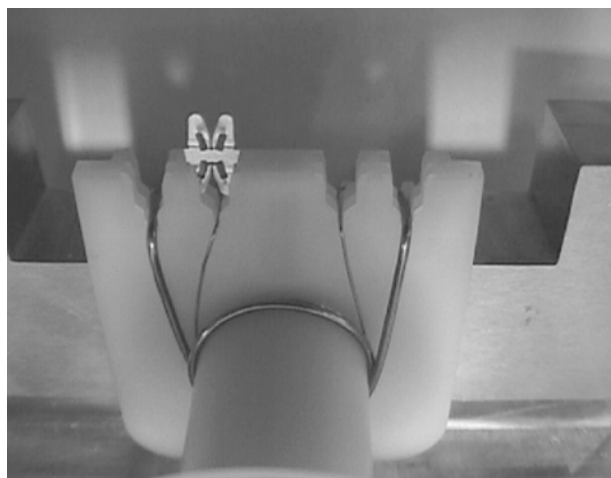

Figure 5
## 3. ARBOR FRAME ASSEMBLY OPERATION (Figure 5)
3. Place the wire-to-wire terminals into the correct cavity locations for each magnet wire. Ensure that the terminal is oriented correctly. See Figure 5.
2. Place the wire-to-wire terminals into the appropriate cavity locations for each magnet wire. Ensure that the terminal is oriented correctly, as shown in Figure 5.